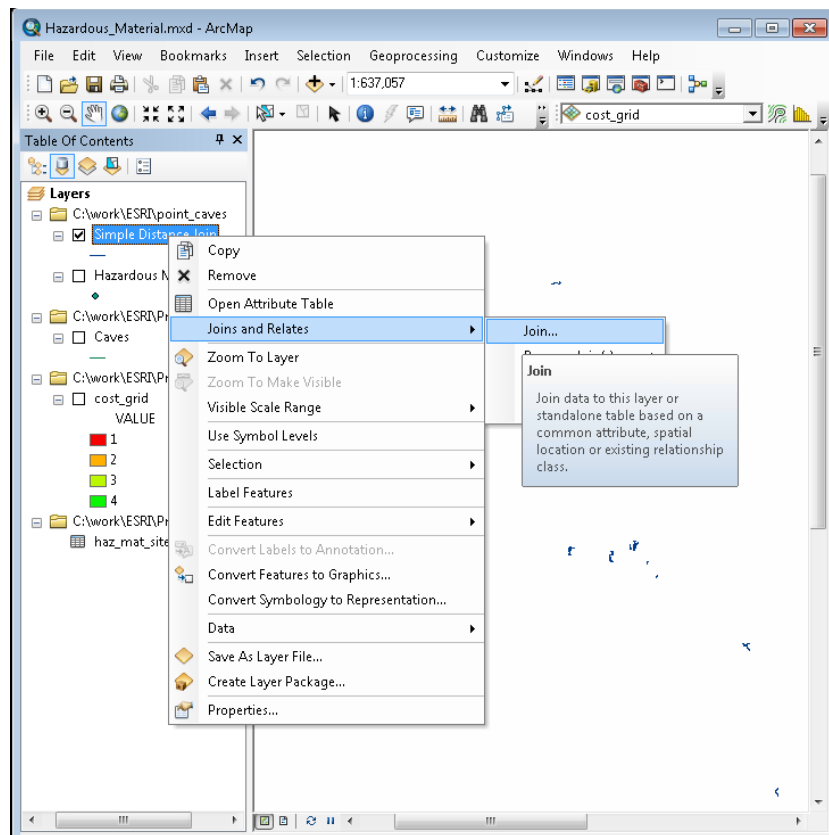

Figure 10. Locating the Join tool
- 3 Join the lookup table to your shapefile attribute table (target table). Right-click *Simple Distance Join* and perform a table join with the lookup table (figures 10 and 11). Use HAZ97_ID for both join fields and the lookup table as the table to join to this layer.